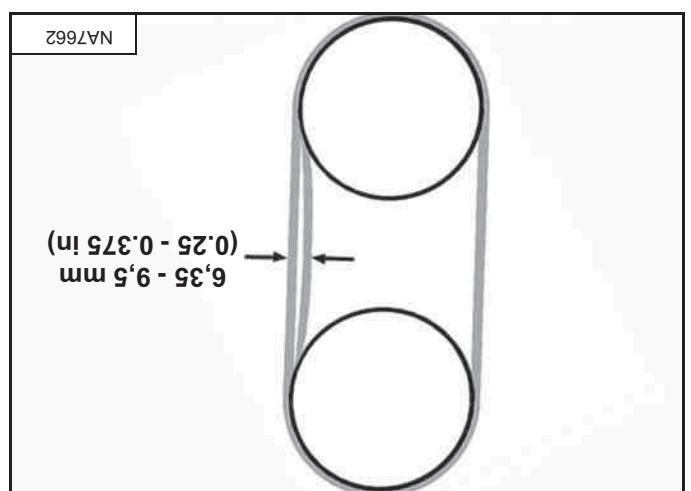
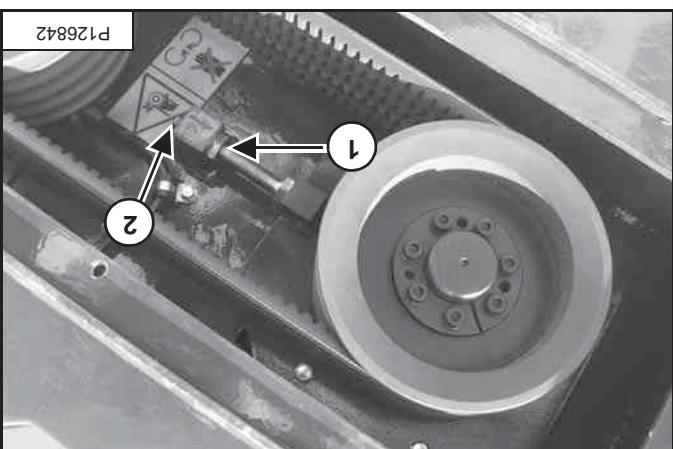

Figure 112
Figure 111
Check the belt tension by pressing forcefully on the belt. The belt should move between 6,35 mm - 9,5 mm (0,25 - 0,375 in) [Figure 112].
Once correct belt tension is obtained [Figure 112], tighten the lock nut (item 1) [Figure 111].
Loosen lock nut (item 1) then tighten the tension nut (item 2) until the correct belt tension is obtained [Figure 111].